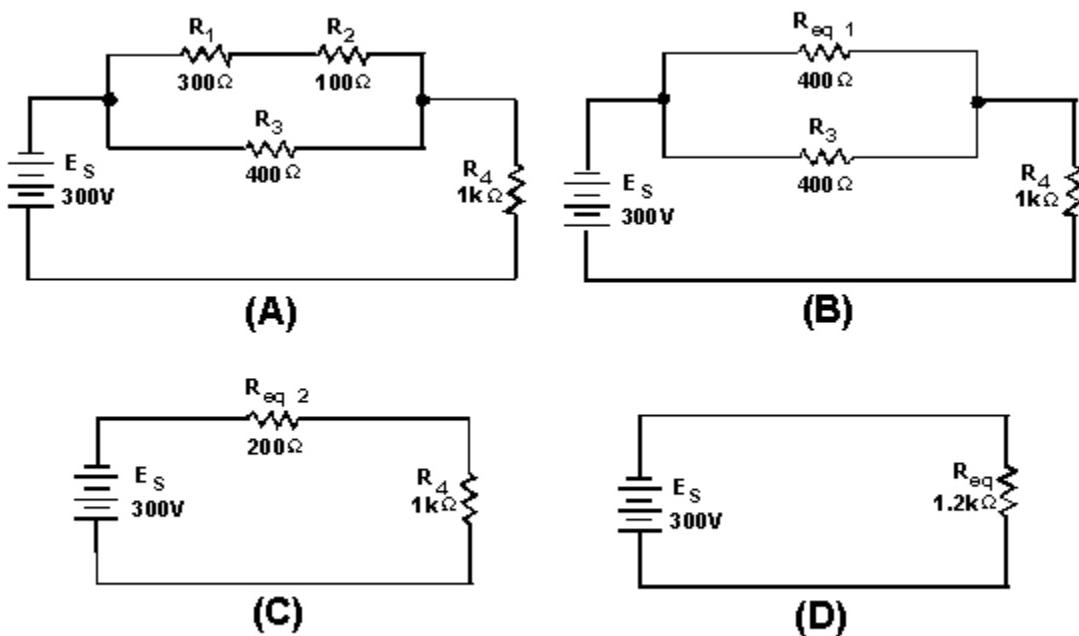

Figure 3-55.—Combination practice circuit.
Figure 3-55 is a typical combination circuit. To make sure you understand the techniques of solving for the unknown quantities, solve for E_{R1} .
Redraw the circuit as shown in figure 3-55(B).
Redraw the circuit as shown in figure 3-55(C).
- Q42. Refer to figure 3-55(A). If the following resistors were replaced with the values indicated: $R_1 = 900\Omega$, $R_3 = 1k\Omega$, what is the total power in the circuit? What is E_{R2} ?